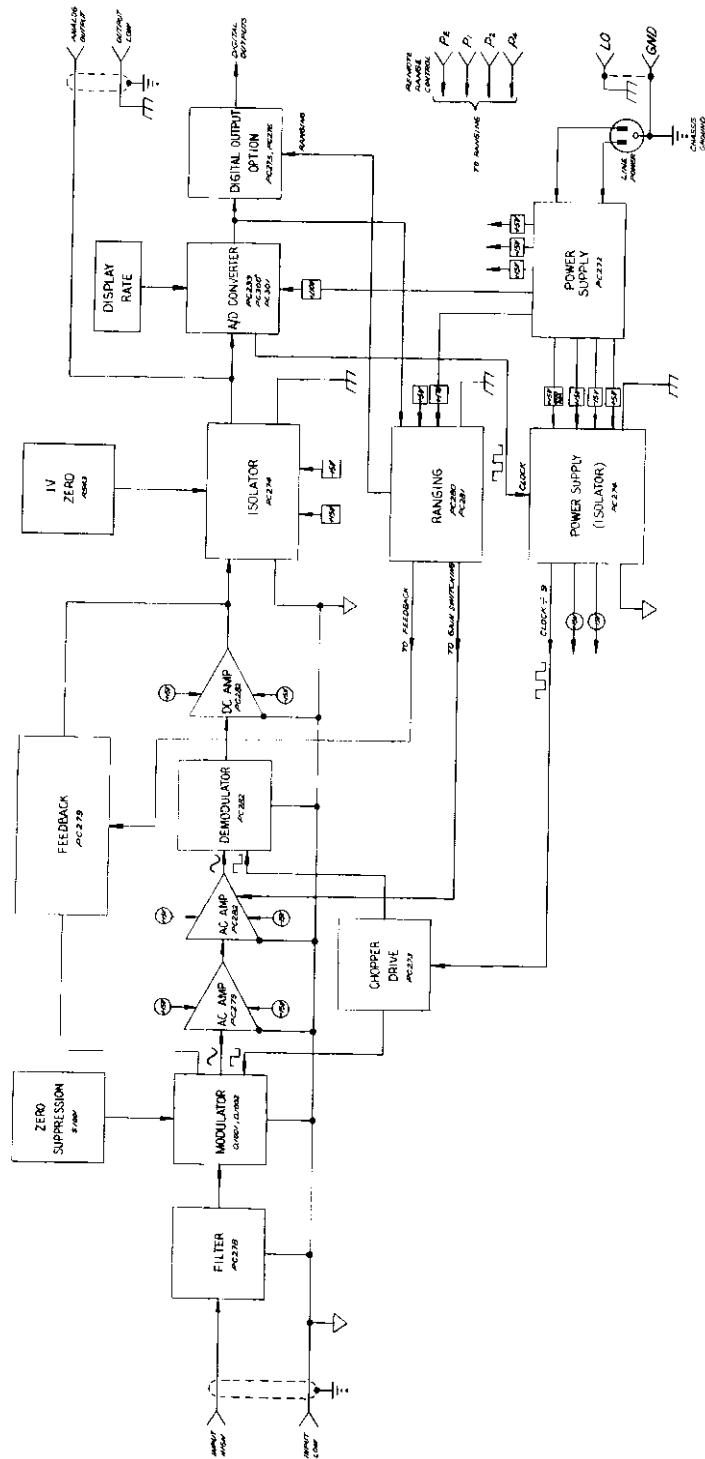

FIGURE 9. Overall Block Diagram.
a. Theory. The analog section includes a sensitive voltage amplifier, autorange switches, and an isolating output amplifier as shown in Figure 9. The voltage amplifier has a two-volt output corresponding to full-scale inputs of 100 μ V to 1000 mV. The autoranging circuit senses the output of the A/D converter in order to range up or down to the desired full-scale sensitivity. The isolating amplifier provides isolation between input low and output low greater than 10^9 ohms (10^{10} ohms at 25°C , 50% RH) and reduces the effects of transients due to output monitoring equipment (spikes, etc. which would otherwise feed back to the source through common low connections).